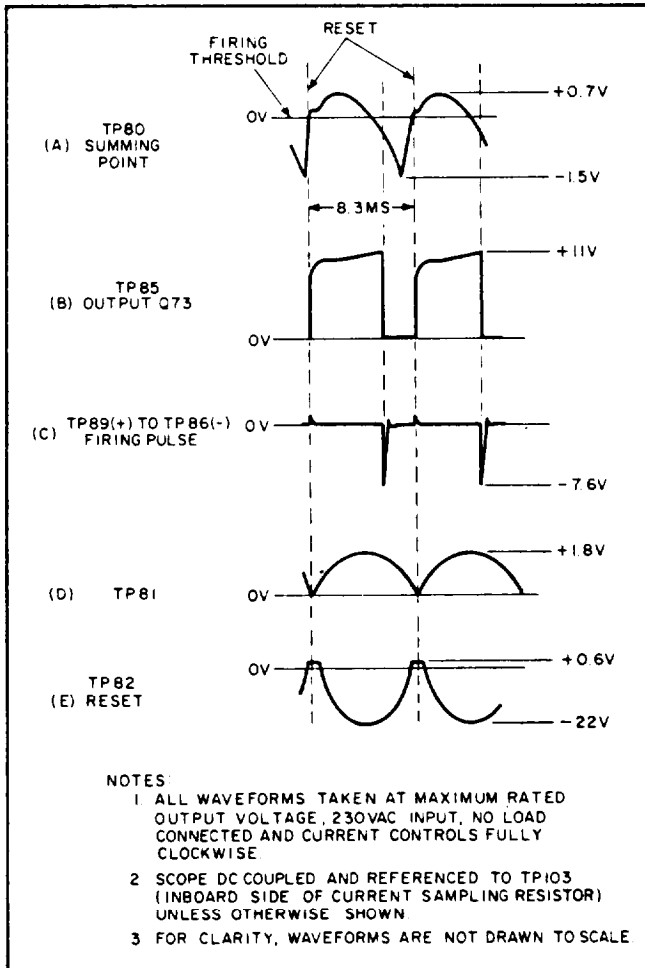

Figure 4-4. Preregulator Control Circuit Waveforms
4-24 The summation of the input signals results in the generation of a voltage waveform at TP80 similar to that shown in waveform (A) of Figure 4-4. When the linear ramp portion of the waveform reaches a certain negative threshold voltage, diodes CR74 and CR75 become forward biased. The negative voltage is then coupled to the base of transistor Q72. Transistors Q72 and Q73 form a squaring circuit resembling a Schmitt trigger configuration. Q72 is conducting prior to firing time due to the positive bias connected to its base through R84, Transistor Q73 is cut off at this time because its base is driven negative by the collector of Q72.
waveform (C) of Figure 4-4, the firing pulse is quite narrow because Q73 saturates rapidly, causing the magnetic field surrounding T70 to collapse. Diode CR76 damps out positive overshoot.